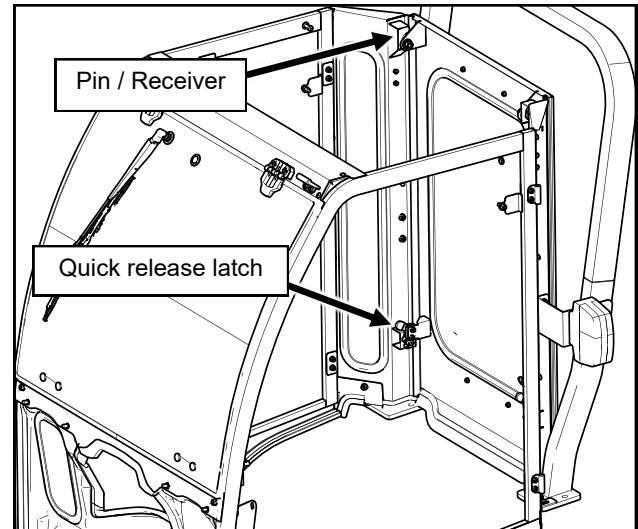

Fig. 12.1 (Rear Panel Installation)
12.1 Lift rear panel and slide the upper pins into the receivers on the rear legs. Engage the lower quick release latches at this time. See Fig. 12.1.